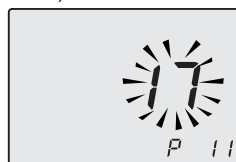

Fig. 8.17
- The writing **P11 - SEt** alternates on the display (Fig. 8.17).